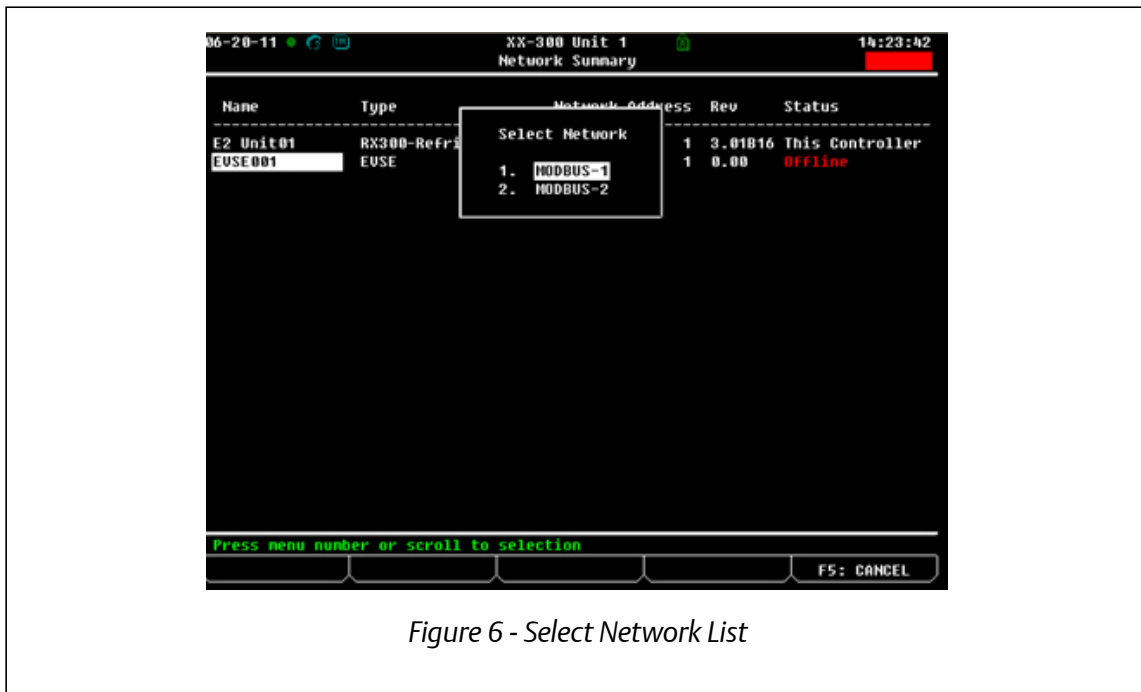

Figure 6 - Select Network List
3. On the *Network Summary* screen, highlight the device name, press **F4** (*COMMISSION*), and select the preferred MODBUS Network (**Figure 6**). (Note that multiple MODBUS Networks appear in the list if more than one serial ports were set up initially.)